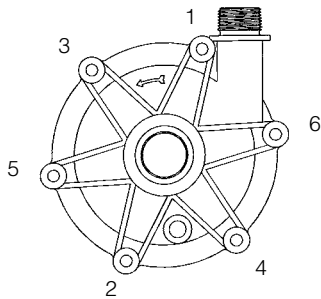

Figure 3
5. Place wet end assembly (comprised of items 1-9) into the motor adapter (item 11). Grasping the barrier at opposite bolt tabs, carefully lower the wet end assembly into the motor adapter/drive assembly. Line up the tabs of the wet end between the tabs on the motor adapter to avoid pinching fingers. Once seated, rotate the wet end until bolt holes line up.
6. Align mounting holes and install 6 mounting screws and washers (items 12A, 12B & 12C) from hardware package. Hand tighten screws using pattern shown in Figure 3.
1. If possible, set motor on fan cover with drive magnet assembly facing up. Place the second stage impeller assembly (comprised of items 2 and 8) into the barrier (item 9). Grasping the barrier at opposite bolt tabs, carefully lower the barrier assembly into the motor adapter (item 11). Line up the tabs of the barrier between the tabs on the motor adapter to avoid pinching fingers. Once seated, rotate the barrier until the bolt holes line up.
2. Install the housing o-ring (item 4) on the barrier. Lubricate the o-ring with a compatible lubricant to facilitate o-ring installation.
3. Install the second stage impeller housing (item 7) onto the barrier being careful not to dislodge the o-ring. Align the bolt hole tabs and gently press together (bolt clearance alignment is critical).
4. Install and lubricate the diffuser o-ring (item 6). Install the diffuser assembly (item 5) making sure to keep bolt clearance alignment straight and making sure not to dislodge the o-ring.
5. If the first stage impeller drive shaft (item 3) was replaced, reassemble it to the impeller assembly by matching the three tabs on the end of the drive shaft with the three recessed slots in the impeller assembly (item 2) and press together.
7. Install and lubricate the housing o-ring. Coming straight down, gently place the impeller housing (item 1) onto the pump with the ceramic front spindle support sliding into the bushing on top of the first stage impeller assembly (items 2 and 3). Orient the housing with the directional arrow on top, the drain boss location on the bottom and with the mounting holes aligned. Install the six mounting bolts, washers, and lock washers (items 12A, 12B, and 12C). Make sure the housing o-ring is not dislodged or pinched. Hand tighten the mounting bolts to pull the pump together using the pattern shown in figure 3.
8. After the housing is tightened down, insert a screwdriver into the suction and push down on the front of the first stage impeller assembly (Note: Do not press on gray thrust ring) to completely set the impeller drive shaft (item 3) into the second stage impeller (item 8). Push firmly on the three areas separated by the spindle support arms in the suction. Rotate the motor fan to verify nothing is rubbing.
9. **56C frame pumps.** Carefully slide the pump assembly over the drive magnet assembly. Orient the discharge port to either the 12 or 9 o'clock position. Make sure the rabbet on the motor is fully seated into the motor adapter (item 11). Align the bolt holes in the motor adapter and the motor. Install 4 bolts and washers (items 14A,14B,14C) and tighten securely.